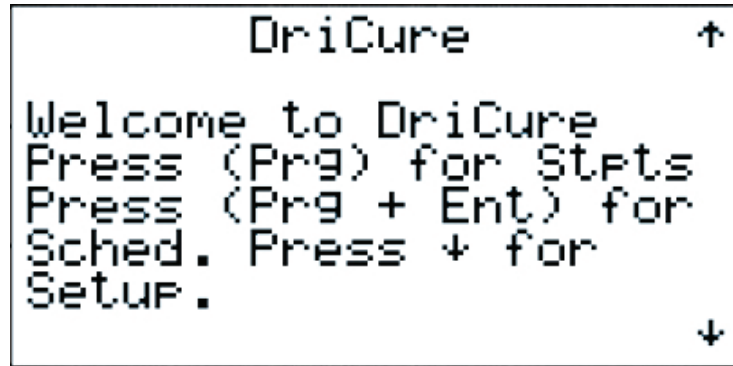

Figure 68
2.3.6 DriCure Setup (Figure 68)
Selecting DRICURE SCHEDULER from the Main Menu will display the screen of Figure 68. This welcome screen will explain the Keystrokes required to access the various parts of the DriCure Menu. Press the **Esc** key to return to the Main Menu.